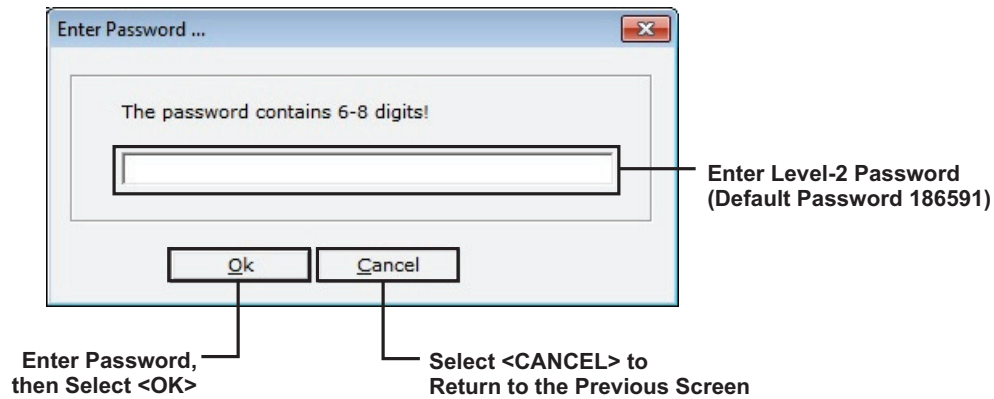

Figure 4-20. Enter Password
1. Select **Tools>Event Log>Clear** to remove all currently recorded events from the system event log. In response, a password request (Figure 4-20) is displayed.
Following selection of the Clear Event Log option, ACT-SLX immediately displays the password prompt (Figure 4-20) for **Single Control Unit** installations.